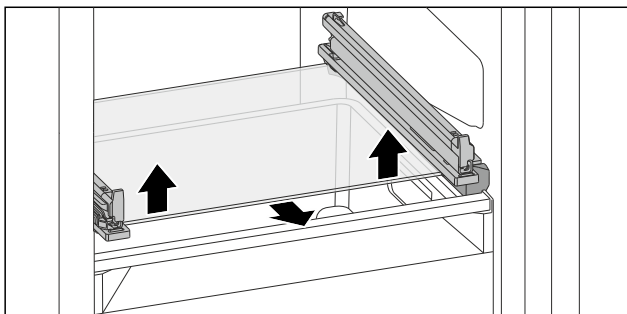

Fig. 104 Tilting drawer glass shelf
- ▶ Press the glass shelf upwards from below on both sides. (see Fig. 104)